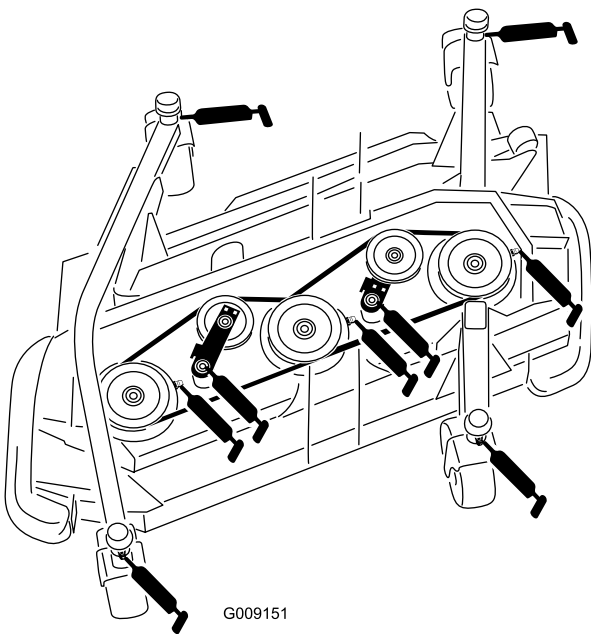

Figure 52
- Castor fork shaft bushing (4) (Figure 52)
- Spindle shaft bearings (3 each) (located on spindle housing) (Figure 52)
- Idler arm pivot bushings (2) (located on the idler pivot shaft) (Figure 52)